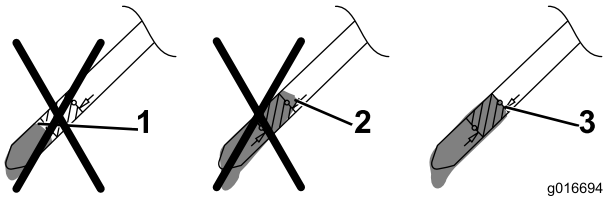

Figure 33
11. Remove the dipstick and read the oil level on the dipstick; refer to Figure 33.
- If the oil level is too low, add a small amount of oil **slowly** to the oil-fill tube, and then repeat steps 9 through 11 until the oil level is correct as shown in Figure 33.